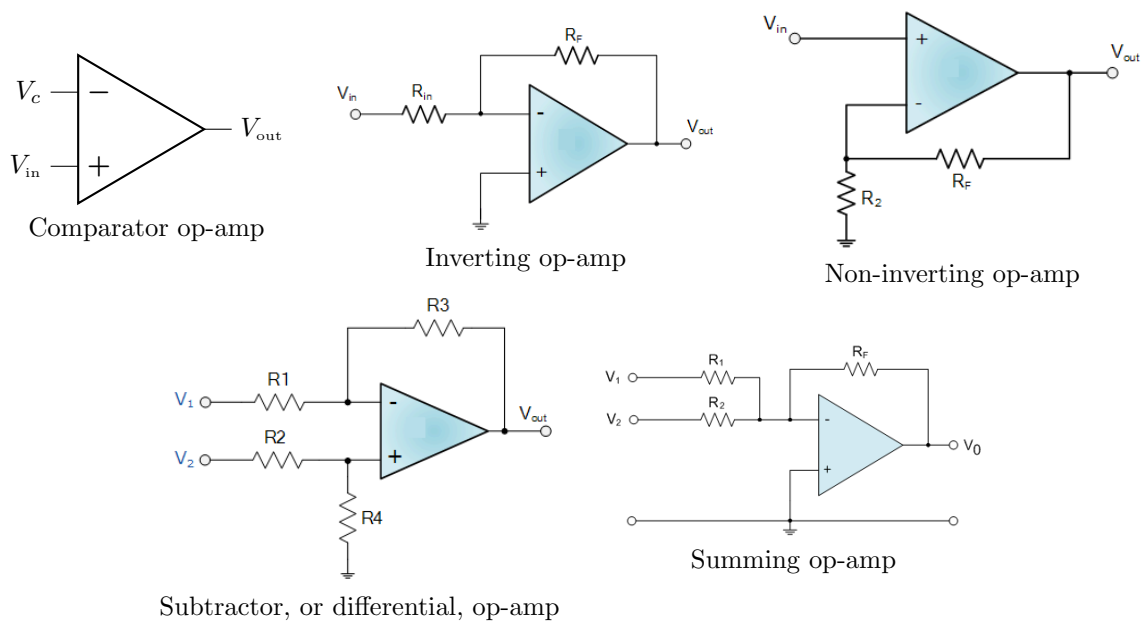

Figure 2.3: Op-amp circuits.
- Reproduce in Tinkercad two of the circuits that you will carry out in the laboratory, seen in Figure 2.3. The circuits you will implement depend on your student number, as explained in this Guide’s Introduction, page iv:
Build the five circuits in Figure 2.3 following these steps:
3. Build the comparator op-amp circuit. Connect the function generator to V_{in} , the AD laboratory's +5 V power supply to V_c , as shown in figure 2.3, V_{in} to channel X in the oscilloscope, and the circuit's output to channel Y. Adjust the vertical and time scales so that you can see two periods on screen.